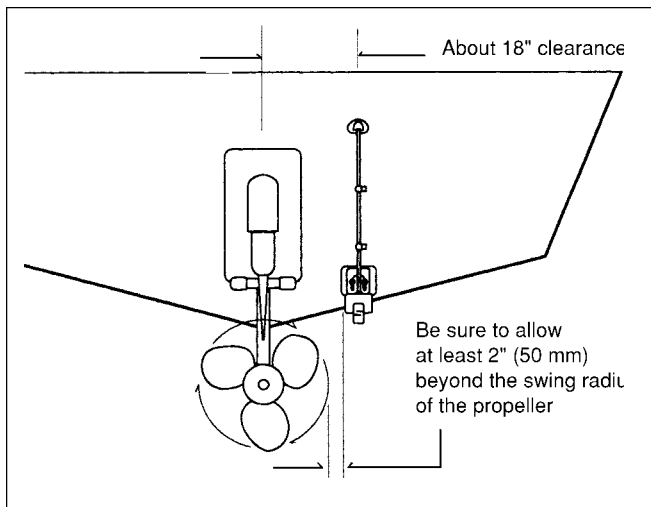

Fig. 2-3
- If your boat has one propeller (outboard or inboard-outboard), mount the transducer about 18" (455 mm) to the side of the centerline of the boat. See Fig. 2-3. Choose the side that is on the downstroke of the propeller. (This is usually the starboard side of the boat.) This will reduce any interference caused by air bubbles.